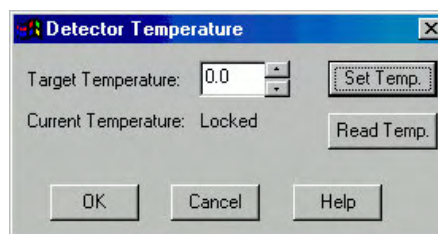

Figure 26. Temperature dialog box
1. Open the WinView/32 Setup menu and click on **Detector Temperature**. This will cause the Temperature dialog box to appear as shown in Figure 26.